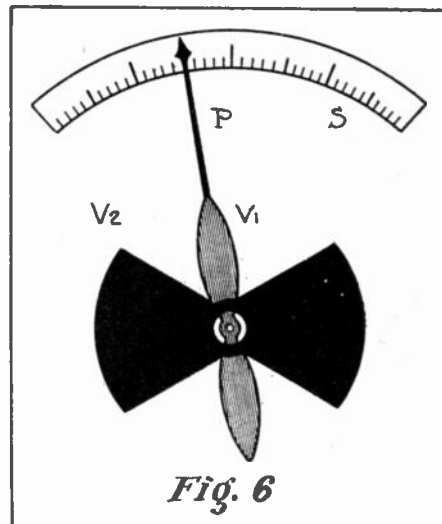

Fig. 6
One disadvantage of all types of meters described above is that they take power from the line to operate. The only meter that does not, the electrostatic voltmeter, is shown in Fig. 6. The operation of this instrument is based on the principle of attraction between oppositely charged bodies. When the vanes (V, V') are connected to opposite sides of a line, they become oppositely charged and attract each other. (V'), being pivoted, rotates, carrying a pointer (P) across the scale (S). This instrument may be used on alternating or direct current, but as a voltmeter only.